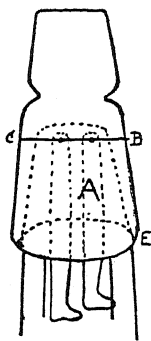

FIG. 168
Shape a cork as in Fig. 168 and hollow out the centre (A). Cut out arms and legs of thin cardboard. Fasten the legs to a piece of wire passing through the hollow in the cork (B C in Fig. 168), so that they hang loosely. Fasten the arms to the shoulders with wire. Make four tiny holes in the bottom rim, E, with a pin; get some stiff bristles (from an old clothes brush), glue them into the holes and when firm cut them level, so that the figure stands upright, with the feet a little above the ground. A